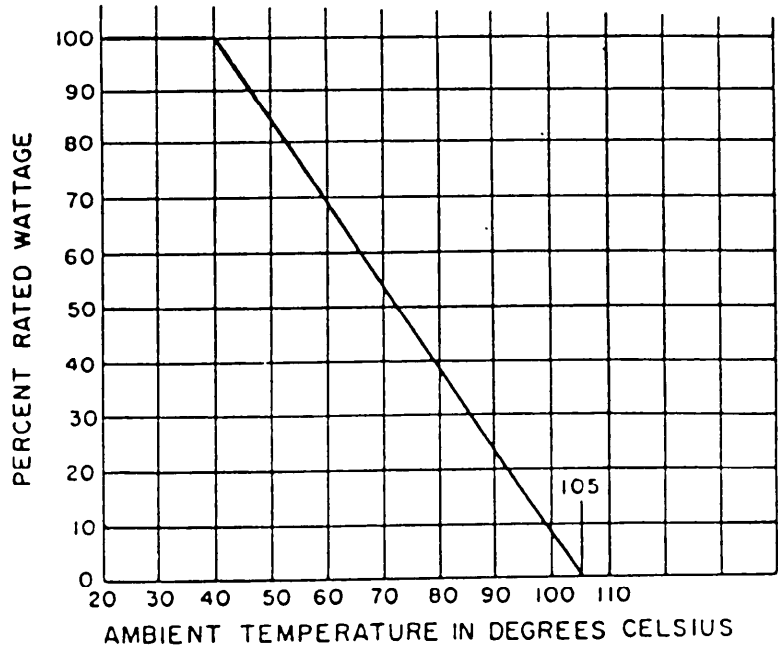

FIGURE 202-1. Derating curve for continuous duty.
2.1.4 Derating at high temperatures. When a resistor is to be used in a circuit where the surrounding temperature is higher than +40°C, a correction factor must be applied to the wattage rating so as not to overload the resistor. This correction factor may be taken from the curve shown on figure 202-1. It should be noted that the continuous wattage rating for linear types is directly proportional to the amount of resistance element in the circuit.